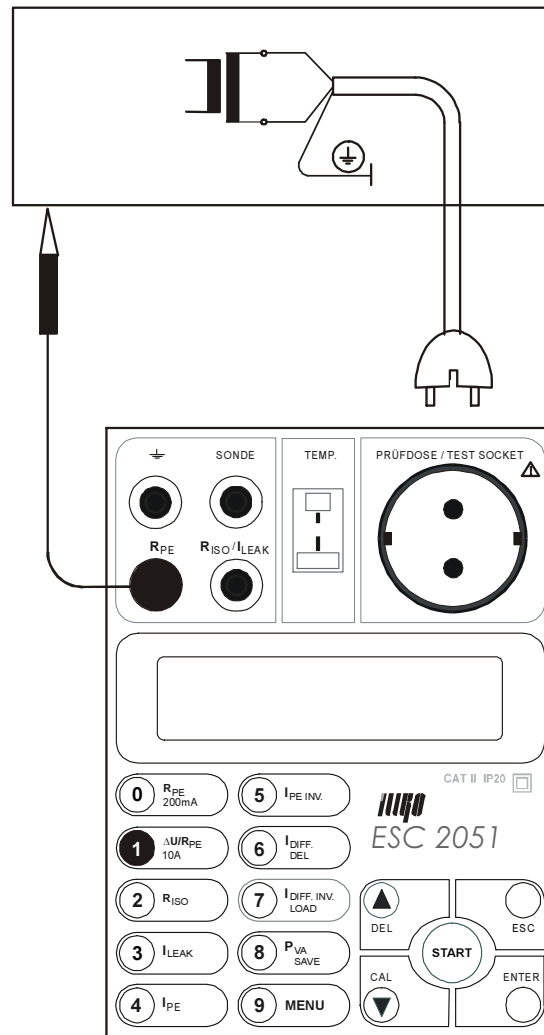

Fig. 4
- Connect mains plug of equipment under test to Test socket **1** (Fig.4).